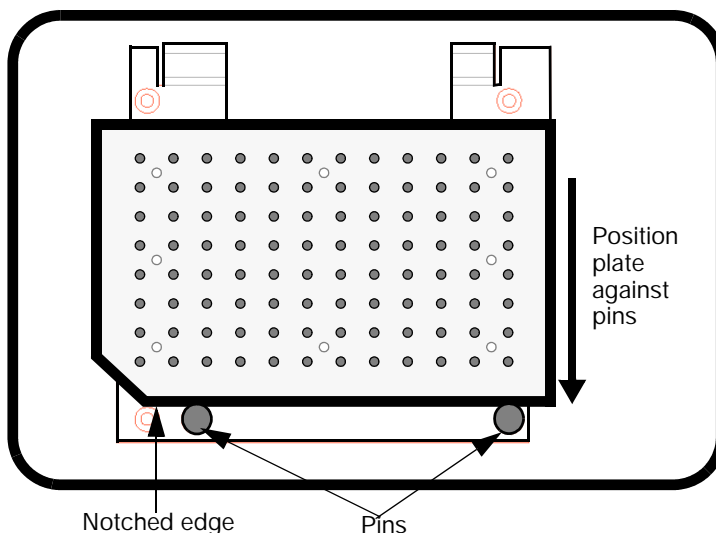

Figure 3-5 Loading a sample plate
3. Place the sample plate on the load pad (right side), with the notched corner of the plate at the front left, and the notched edge of the plate against the pins on the front of the load pad (Figure 3-5).